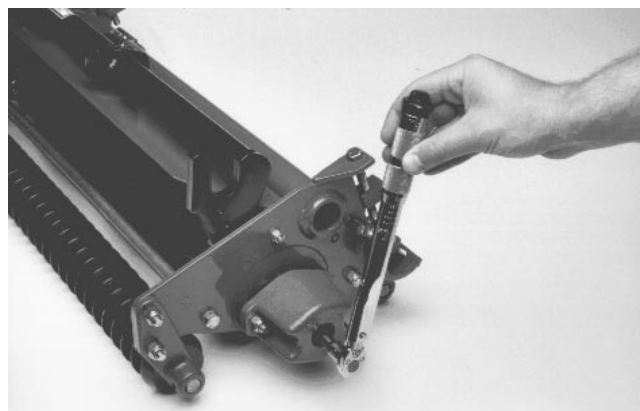

Figure 5
2. Reel bearing drag should be 4 to 7 in-lb. This can be measured with a torque wrench (Fig. 5). If bearing drag does not meet above specification, adjust the reel bearings.